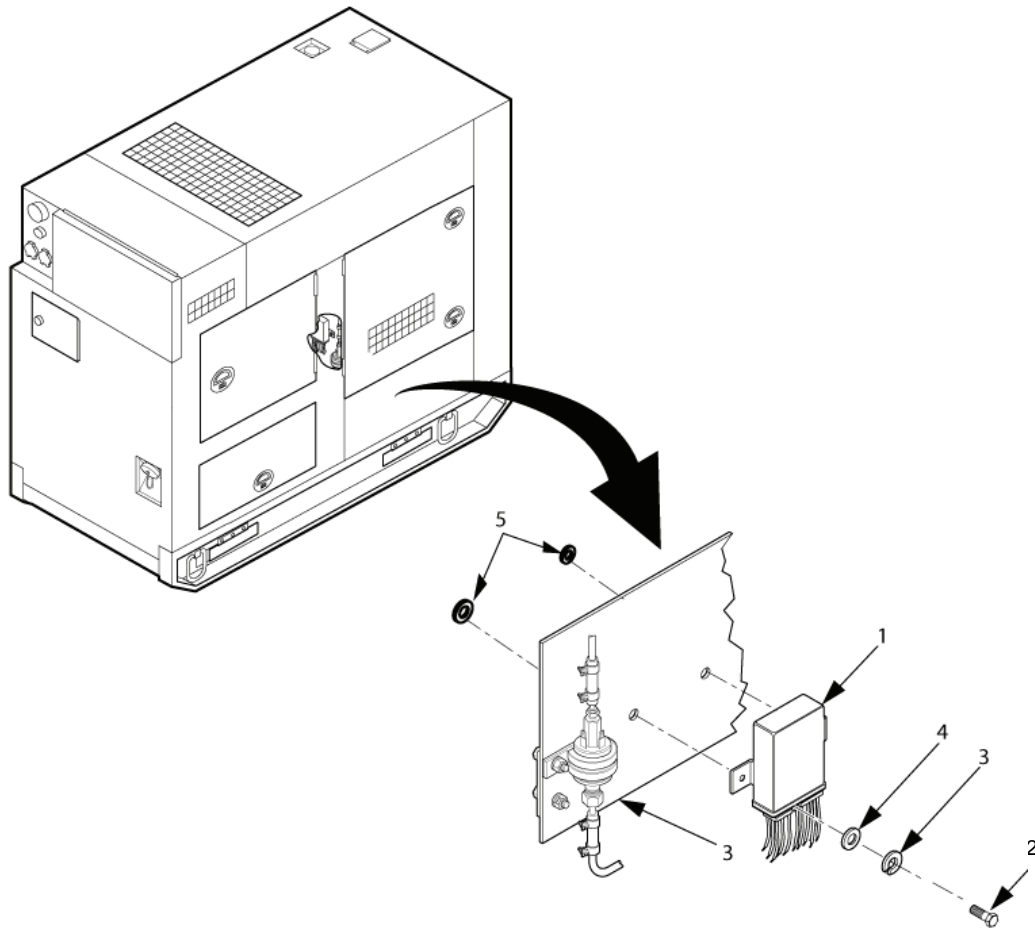

Figure 6-13. Control Unit Maintenance.
- c. Remove two nuts (5, Figure 6-13), two screws (2), lock washers (3), flat washers (4) and control unit (1). Discard lock washers (3).